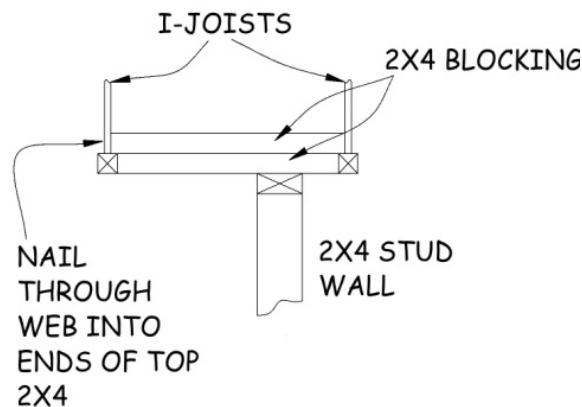

Figure 6-10. Blocking for Attaching Basement Walls Between I-joists.
13. Walls parallel to the I-joists require blocking at the top. Nail 2x4s between the bottom I-joist flanges at 24" O.C., flush with the bottom of the I-joist flange (see Figure 6-10).